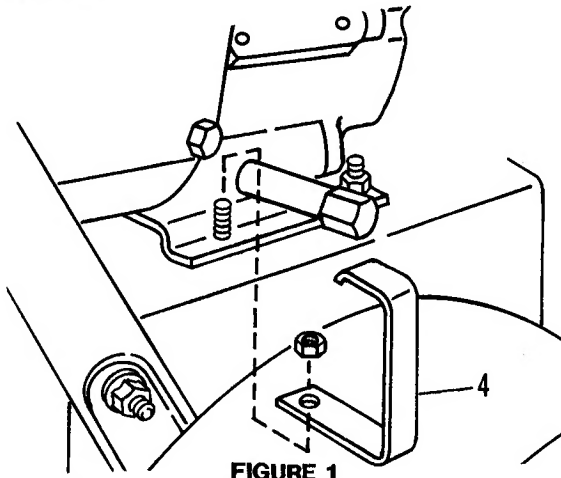

FIGURE 1
STEP 2: Remove nut from engine base on right rear side (as viewed from operators position). Install cable bracket (item 4) over stud and secure with nut. See figure 1.